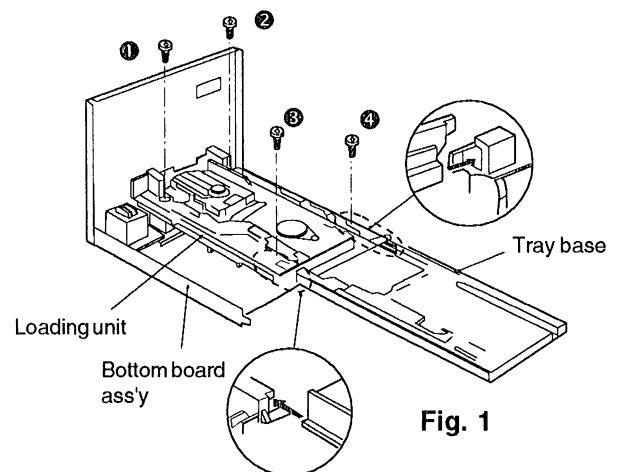

Fig. 1
1. Install the loading unit on the bottom board ass'y and secure it with 4 screws (① ~ ④). (See Fig. 1)
2. Install the tray base on the loading unit. (See Fig. 1)